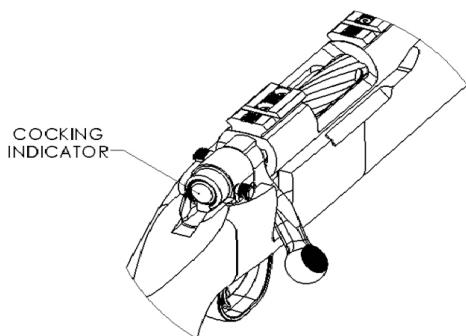
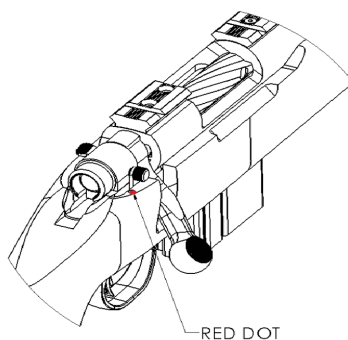

Figure 4
Figure 5
C. Push the bolt fully forward and rotate the bolt handle clockwise and down to the “closed bolt” position. Observe the end of the bolt. The round flat end of the striker is the cocking indicator. When it is flush with the outside ring of the bolt sleeve, it indicates the firearm is cocked and will fire if the firearm is loaded (Fig. 4), the safety lever is moved to the “OFF” (FIRE) position, and the trigger is pulled. When the firearm is fired, the cocking indicator will snap forward and be recessed approximately 3/16” from the edge of the bolt sleeve (Fig. 5).